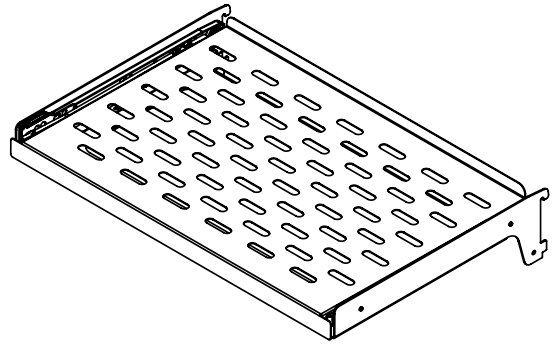

Figure 28
- (1) full width slide out cantilever metal shelf. (See Figure 28).